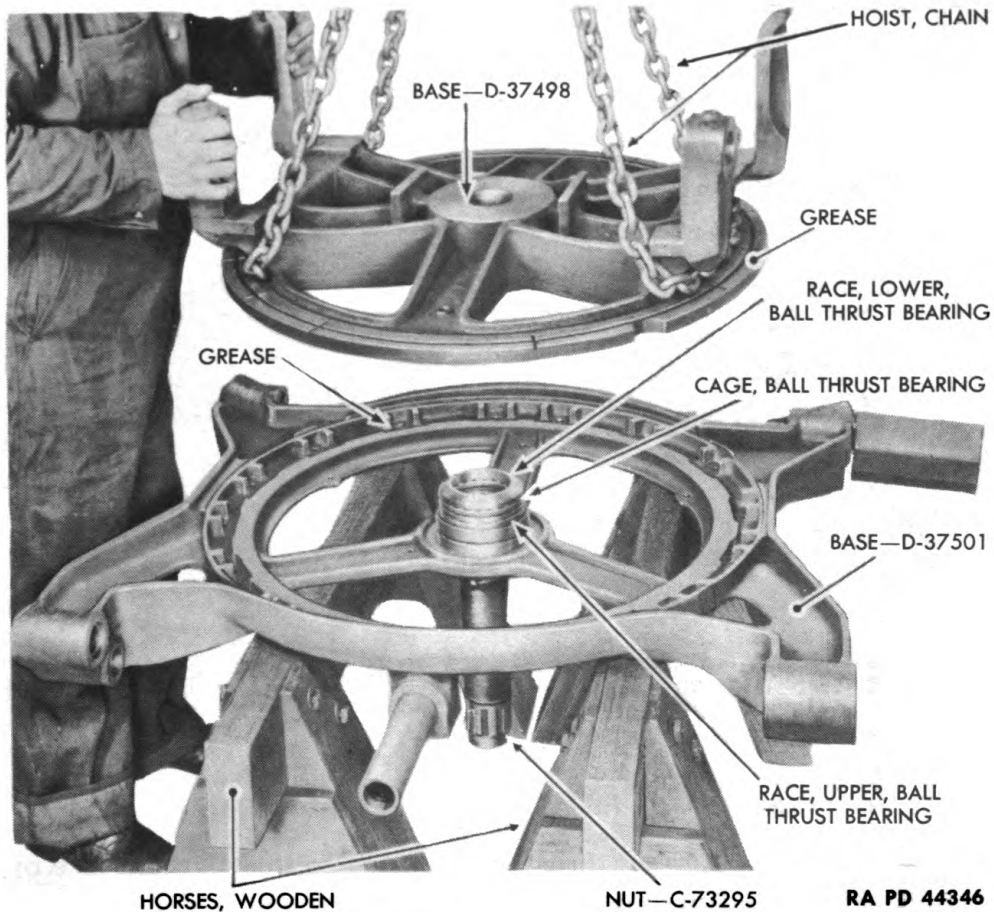

Figure 334—Installing Trail Base
- (1) Press four drawbar hinge pin bushings in limber base.
- (2) Tap thrust ball bearing upper race on limber lifting mechanism nut; then coat race with **GREASE**, general purpose (seasonal grade).
- (3) Place limber base upside down on two wood horses (fig. 334). Install limber lifting mechanism nut in limber base. Pack thrust ball bearing case with lubricant and install on thrust ball bearing upper race. Coat thrust ball bearing lower race with lubricant and place on thrust ball bearing cage with beveled face up.
- (4) Coat inside edge of limber base with **GREASE**, general purpose (seasonal grade), and lower trail base onto limber base (fig. 334).